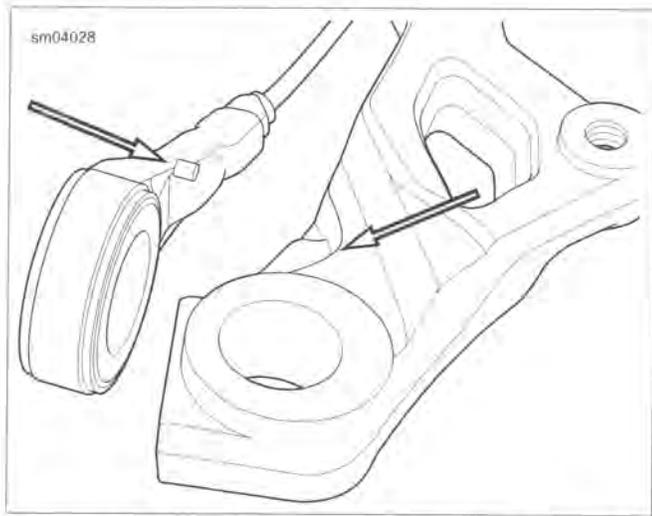

Figure 2-8. Rear Wheel Speed Sensor Index Pin (ABS Equipped)
10. **ABS equipped:** Route sensor cable forward and outboard of caliper bracket. Continue forward following the top of the rear fork. Rotate rear WSS counterclockwise until index pin makes contact with caliper bracket at point shown in Figure 2-8.